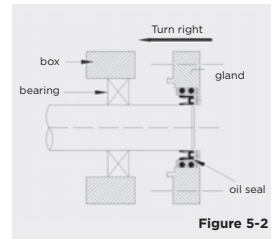
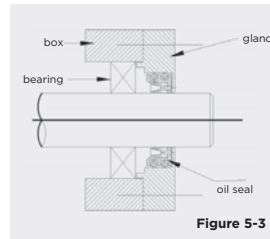

Figure 5-2
Figure 5-3
5. Adjust the oil seal to be perpendicular to the shaft (Figure 5-2) and push it evenly into the final installation position (Figure 5-3).